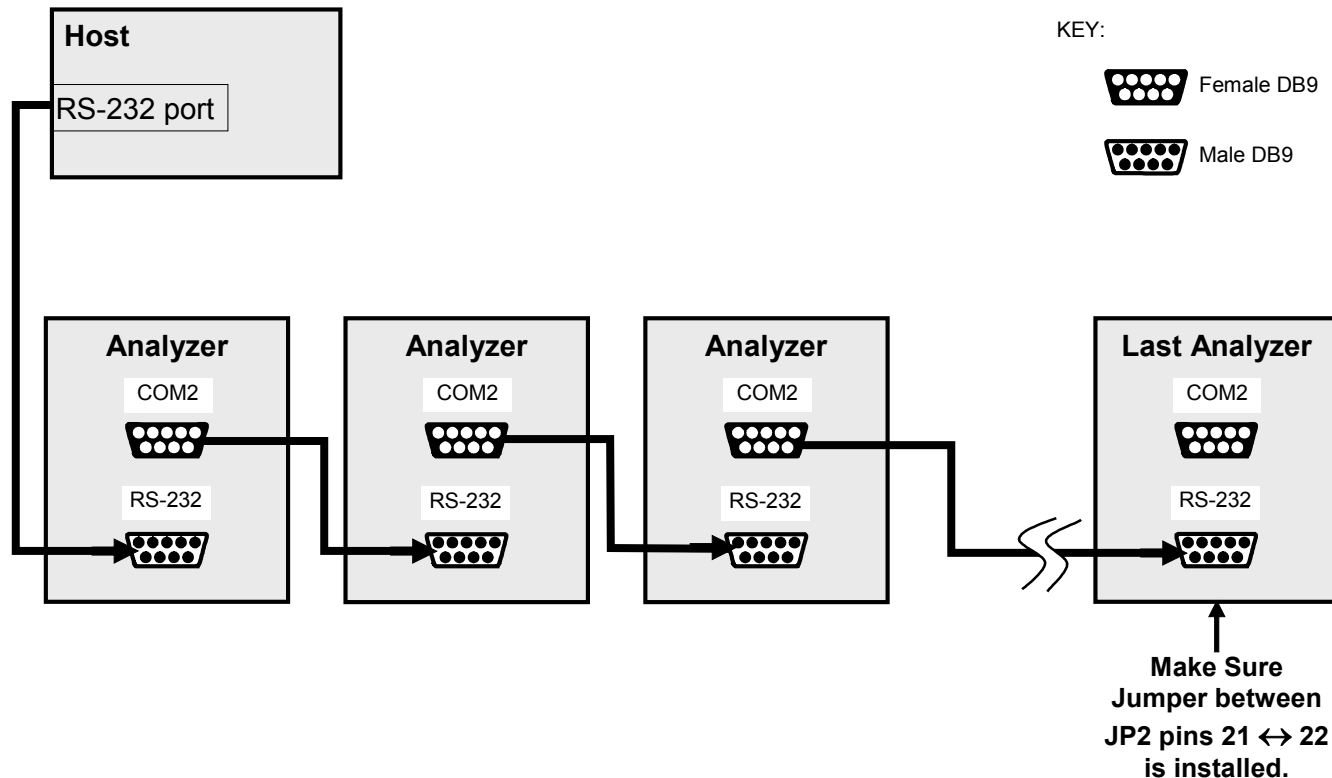

Figure 6-12: RS232-Multidrop PCA Host/Analyzer Interconnect Diagram
7. Using straight-through, DB9 male → DB9 Female cables, interconnect the host and the analyzers as shown in Figure 6-12.